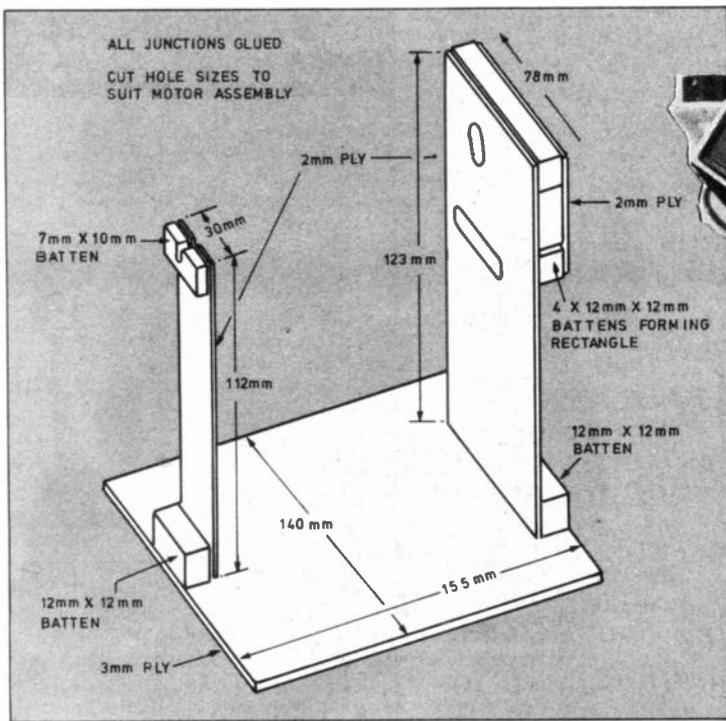

Fig. 9. Mounting frame for the solar panel assembly.
- Solar panel, 98mm x 128mm, 12V/30mA output at 100mW/sq.cm illumination; RC servo motor with mounting hardware (see text); strip-board 0.1 inch grid, 33 strips x 20 holes; plastic case 115mm x 60mm x 30mm; test resistor, 47 ohms 5% 0.25W carbon film; plywood and beading for frame (see Fig. 9); nuts, bolts, screws etc; A4 slide binder; adhesive; 1mm solder pins; connecting wire; solder, etc.
Almost the entire hardware construction of the Solar Seeker frame can be made from modelling plywood and square beading. Details of the frame are shown in Fig. 9, Fig. 10 and the photographs.